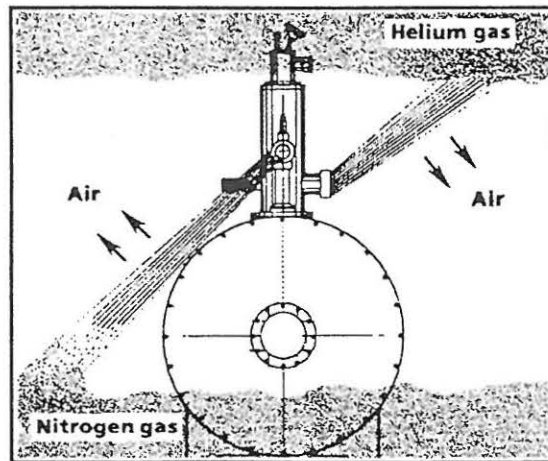

Figure 3.6. Gas from the cryostat displaces atmospheric oxygen
- remember that cold nitrogen gas tends to collect near the floor, and helium gas near the ceiling. (See Figure 3.6.)